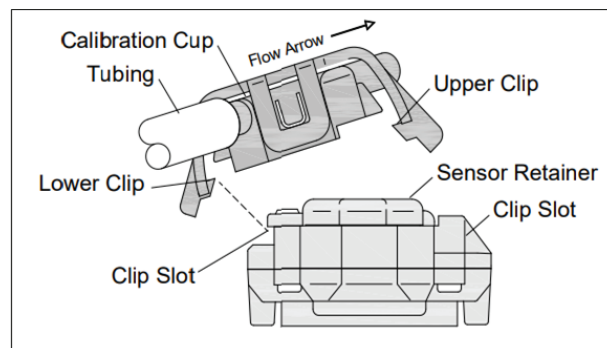

Figure 23
**5.4.3** To attach the calibration cup, hook the calibration cup's lower retaining clip under the lower slot as shown in Figure 23.